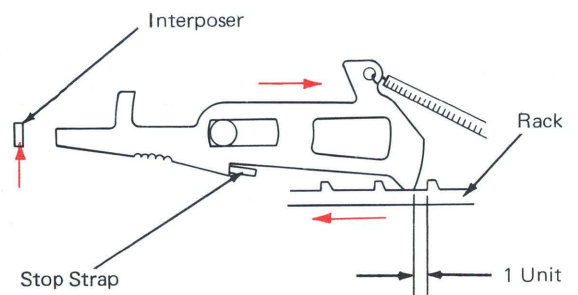

Figure 6 – Escapement Pawl Operation (Top View)
3. As the escapement pawl moves to the right, it clears the operating interposer and pivots back into the rack previous of the next rack tooth and is held by the stop strap (Figure 6).